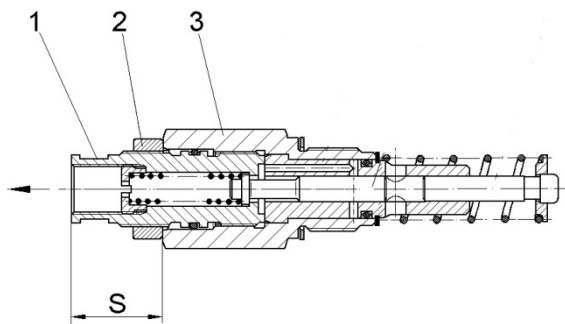
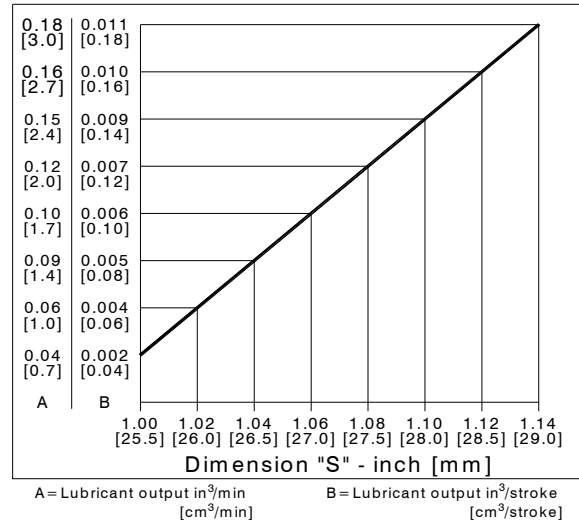

Fig. 6-12 Adjustable Type Element
Fig. 6-13 Delivery Adjustment Diagram
1. Loosen locking nut (2) while holding the pump element body (3) in position with a second wrench.
2. Change the position of the adjusting spindle (1).
3. Refer to the delivery diagram Fig. 6-13 when adjusting to dimension "S" Fig. 6-12.